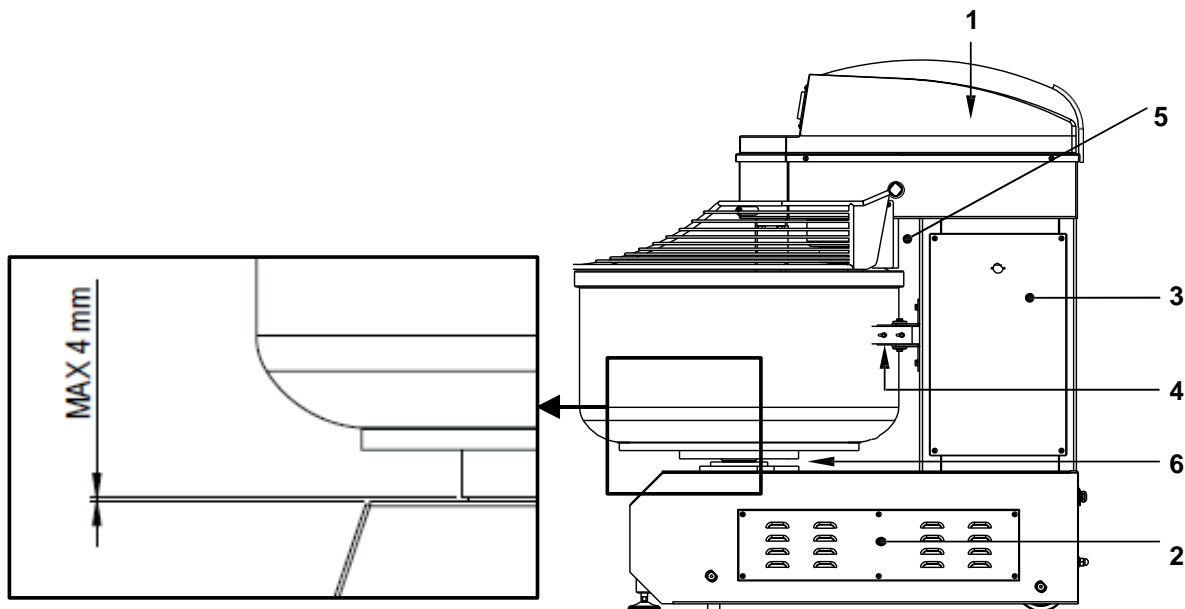

Figure 23 - Guards fixed with screws or similar devices
2. **Fixed guards:** they are guards kept locked by fastening elements which cannot be dismantled without using equipment; if they are correctly assembled and fastened on the base, they particularly (but not only) make the drive units moving the spiral arm and the bowl inaccessible. In detail (see Figure 23):
- the drive units moving the spiral arm are segregated using the guard ref. 1.
- the drive units moving the bowl are segregated using the guards ref. 2. (electric box and relevant closure panel) and ref. 3.